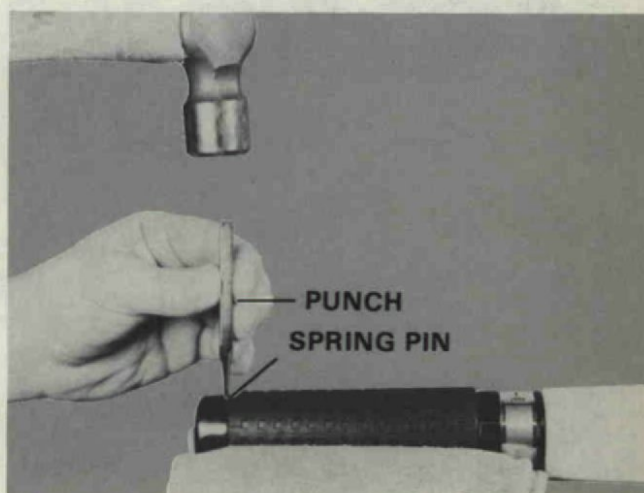

Figure 2. Removing Steering Handle Grip.
- A. Drive out spring pin securing grip to steering handle shaft. Figure 2.